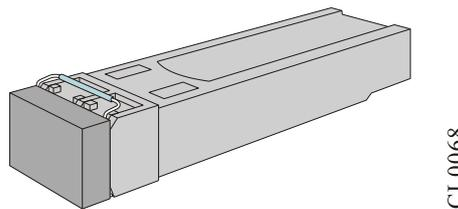
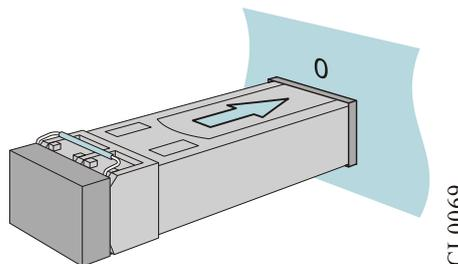

Figure 4-13 SFP module
Figure 4-14 Install the SFP module
Step 3: Get the SFP module out from the packing box. The appearance of the SFP module is as shown in Figure 4-13. Use the hands to hold the two sides of the SFP module and push it into the interface slot of the router horizontally until the SFP module is close-contact with the slot (you can feel that the shrapnel at the top and bottom of the SFP module stuck the interface slot), as shown in Figure 4-14.